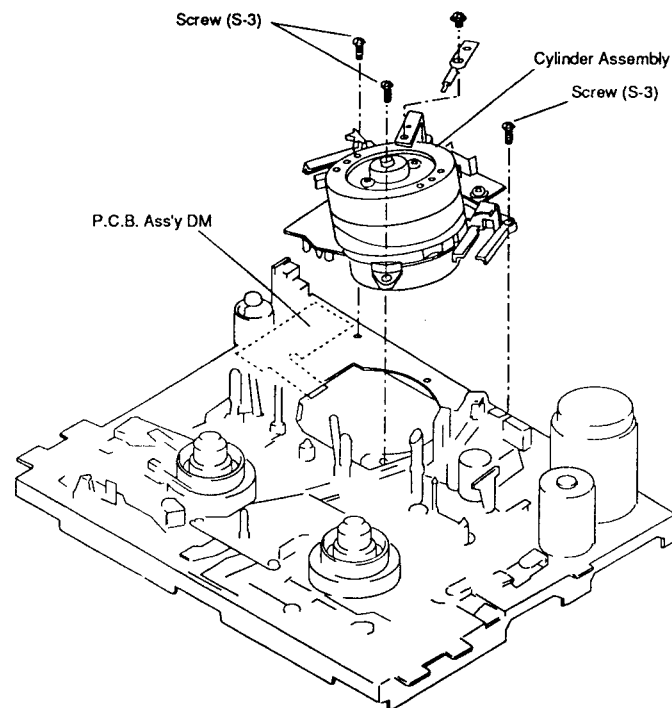

Fig. M12
4. Connect the P.C.B Ass'y DM to the CYLINDER ASSEMBLY. (Refer to Fig. M12)